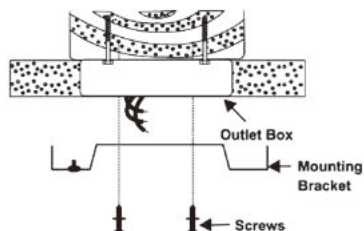

Figure 4
1. Attach the mounting bracket to the outlet box using the two screws and washers provided with the outlet box. (Fig. 4). For best performance be sure the mounting bracket is level and secured firmly against the ceiling. You may need to insert additional washers (not provided) between the outlet box and mounting bracket to make it level.